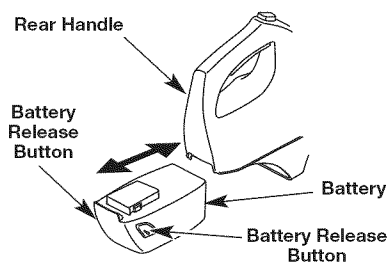

Fig. 2
- Align the tongue of the battery with the handle cavity (Fig. 2).
- Press down and hold both release buttons on the battery (Fig. 2).
- Fit the battery into the handle cavity (Fig. 2). Refer to *Installing the Battery*.